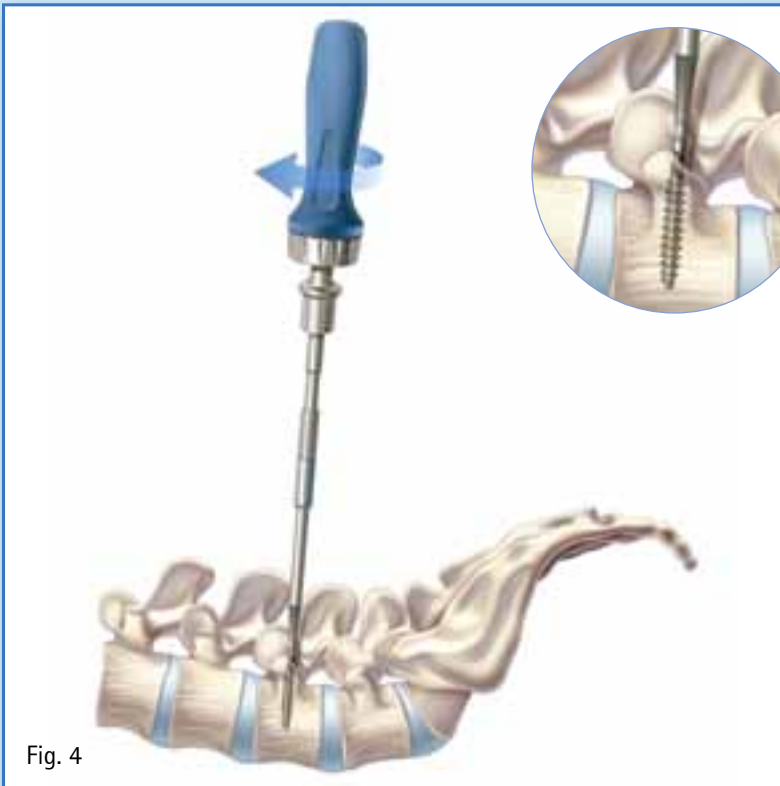

Fig. 4
- To tap, attach the ratchet handle or the T-handle (ME175R or FW167R) to the appropriate tap based on the screw diameter. **Refer to page 32 for a complete list of taps sizes.** (Fig. 4)